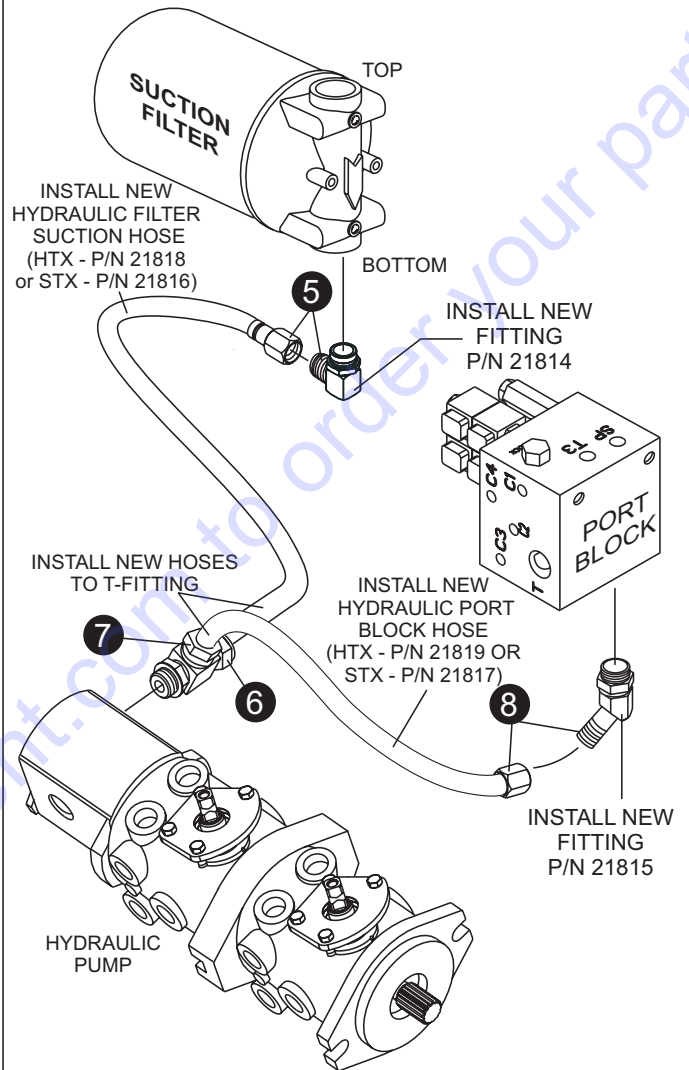

Figure 1. Modification Drawing
1. For removal and installation of hydraulic hoses, reference Figure 1.
5. Remove the bottom **suction hose** from the hydraulic suction filter as shown in Figure 1, step 1.
6. Remove the other end of the **suction hose** from the side of the T-fitting (Figure 1, step 2). It may become necessary to remove other hoses to gain complete access to the hose connection point. If so, take care in removing the other hoses.
7. Next, remove the **port block hose** from the top of the T-fitting (Figure 1, step 3).
8. Remove the other end of the **port block hose** from the port block fitting (Figure 1, step 4).
9. Install new screw-on fitting (threaded - P/N 21814) into hydraulic filter (Figure 1, step 5). Connect mating end of **new suction hose** (HTX - P/N 21818 or STX - P/N 21816) to this fitting (Figure 1, step 5).
10. Connect the other end of **new suction hose** to side of T-fitting (Figure 1, step 6).
11. Connect one end of **new port block hose** (HTX - P/N 21819 or STX - P/N 21817) to top of T-fitting (Figure 1, step 7).
12. Install new screw-on fitting (threaded - P/N 21815) into port block (Figure 1, step 8). Connect mating end of **new port block hose** (HTX - P/N 21819 or STX - P/N 21817) to this fitting (Figure 1, step 8).